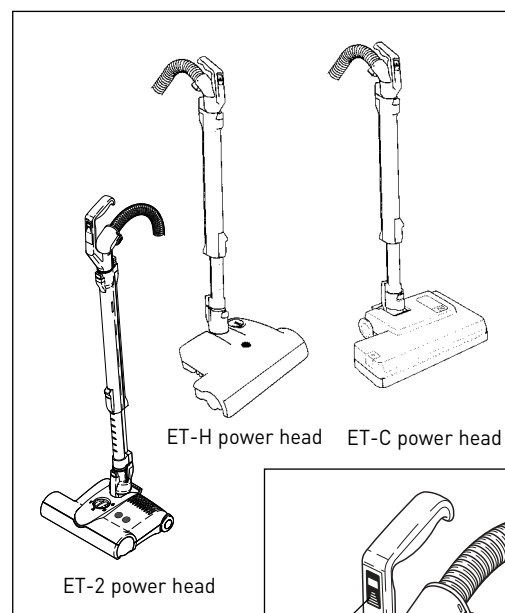

Figure 4
Starting The Machine and Suction Control - Figures 4, 5 & 6a
A. Before turning on your canister, make sure that the vacuum handle is in its upright locked position (figure 4).
B. When the power head is on with the handle in the upright locked position (see figure 4 above), the brush roller will not spin.